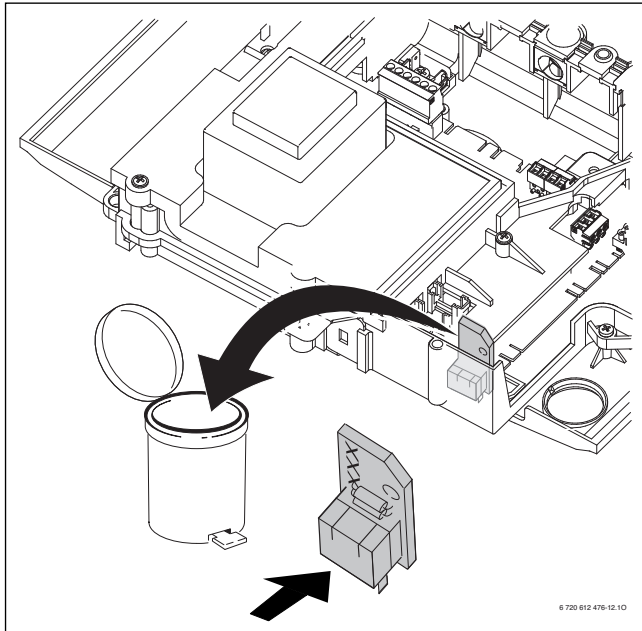

Fig. 13
- Remove the code plug (see Fig. 13) from the control panel and cut the tie to the boiler chassis so that it can be completely discarded and replace with the correct one according to following table: